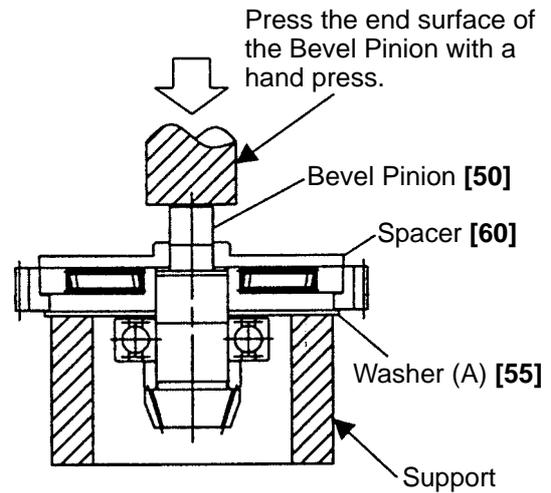

Fig. 19
(4) Disassembly of the slip clutch
Remove the Ball Bearing 629VVC2PS2L [61] with a bearing puller. Place the assembly on a sleeve-type support facing Washer (A) [55] downward as shown in Fig. 19. Push the Spacer [60] side of the Bevel Pinion [50] with a hand press to remove the Gear Holder [56] and the Spacer [60] from the Bevel Pinion [50]. Before removal of the Second Gear [59] from the Gear Holder [56], put the assembly in a poly bag and disassemble it inside the poly bag to prevent missing of Spring (C) [57] and the Needle [58].